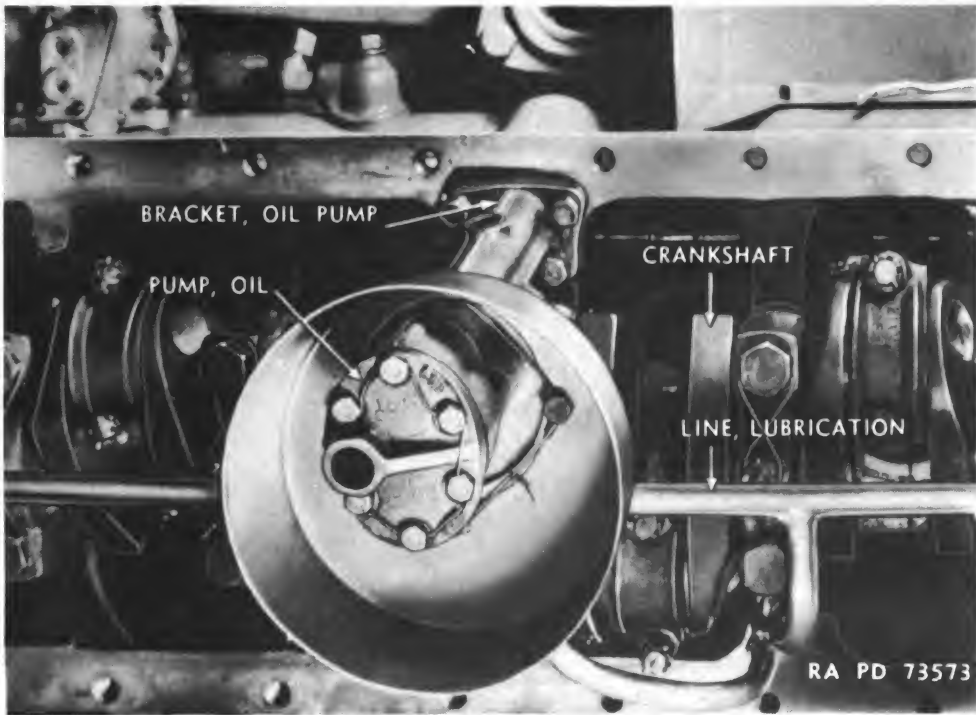

Figure 124 – Oil Pump
60. OIL PUMP (figs. 124 and 125).